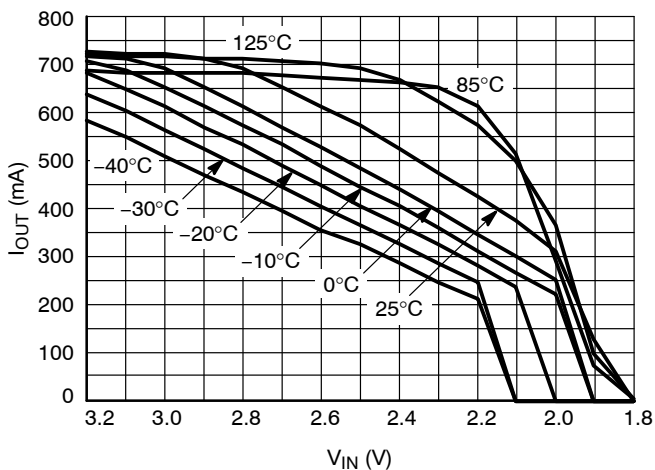

Figure 21. Output Current Capability for the 1.8 V Version
18. For output current capability for $T_A < 0^\circ\text{C}$, please refer to Figure 21.